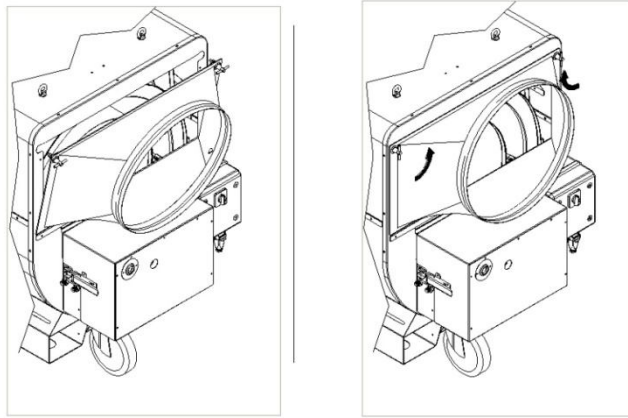

Fig. 3.8.2
- Attach the selected air outlet panel to the front panel of heater. The cam-lock system allows a quick connection and disconnection of the air outlet (Fig. 3.8.2)